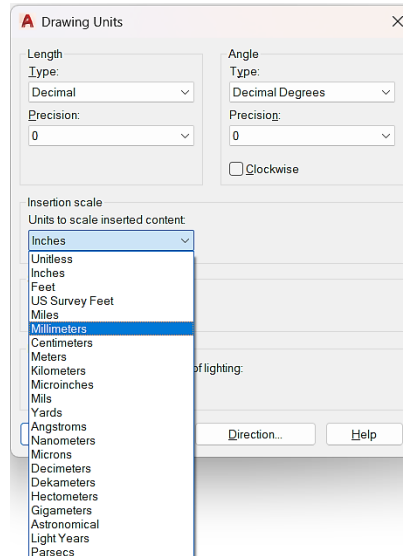

Fig. 10.1
- The Drawing Units dialog box will appear as shown in Fig. 10.1.